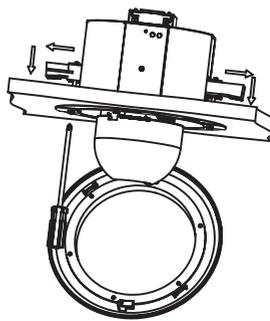

Figure 6
- (6) Push the iron hooks to both side, then move the iron hooks by turning screws clockwise to fasten on ceiling. Please refer to Figure 6.